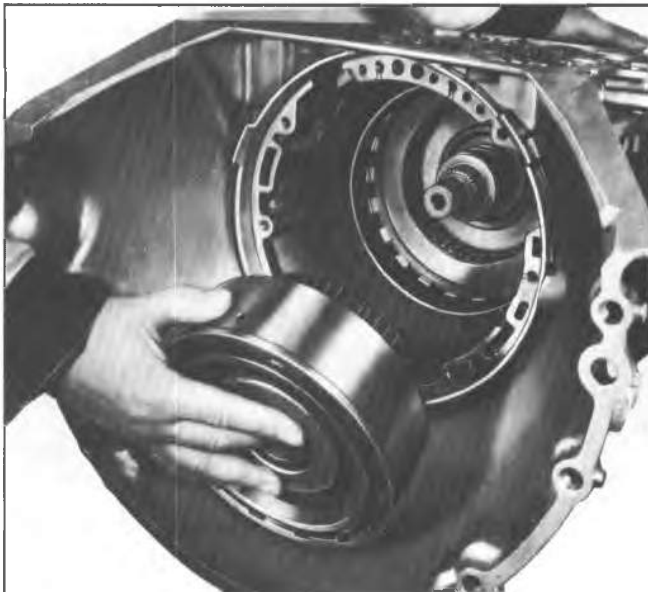

Fig. 7A-166C—Installing Direct Clutch Assembly
17. With converter end of transmission up, carefully install direct clutch and intermediate roller assembly. It will be necessary to shake and slightly twist housing to allow roller outer race to index with composition plates. Housing hub will bottom on sun gear shaft (Fig. 7A-166C).